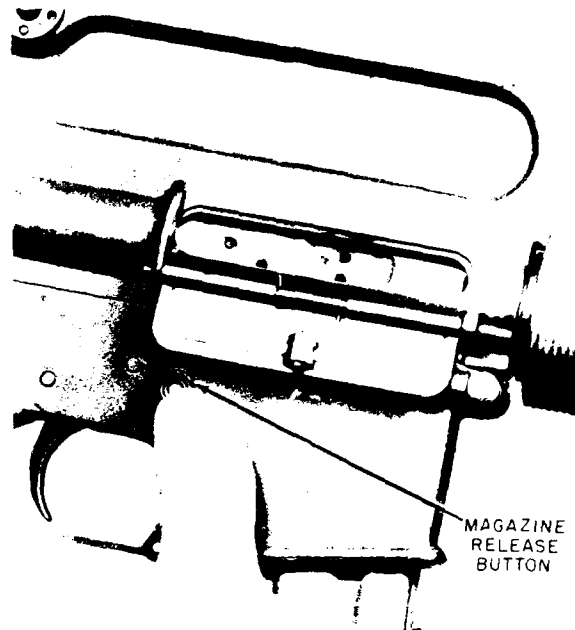

Figure 4-6.—Removing the magazine. 29.347
2. Remove the magazine, as shown in figure 4-6. Grasp it with the right hand (fingers curled around the front of the magazine, thumb placed on the magazine release button). Apply pressure on the magazine release button with the thumb, and pull the magazine straight out of the weapon.
With the hammer cocked, place the selector lever on SAFE. (See fig. 4-6.) Notice that you cannot place the selector lever on SAFE position unless the rifle is cocked. You may insert the magazine with the bolt and bolt carrier open or closed; however, you should learn to load with the bolt open. This reduces the possibility of first-round stoppage and saves the time needed to pull the charging handle to the rear.